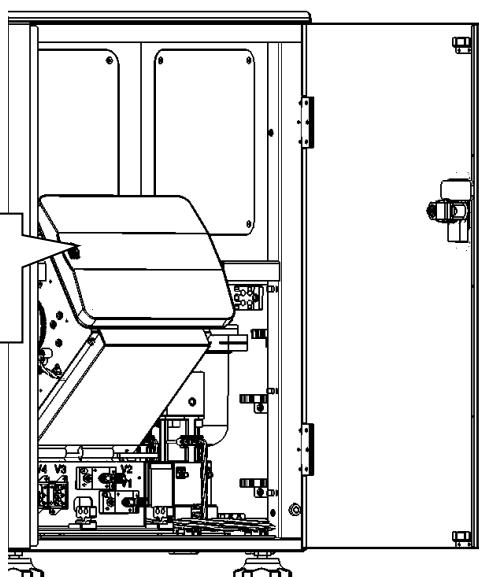

Figure 5-8
2. Reverse the selection mechanism to the right (as shown in Figure 5-8).
- 1) Place the test strip feeder to the right (Figure 5-8).